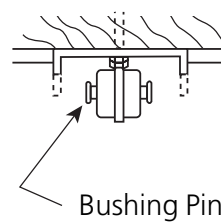

Figure 9
3. **Be sure the pin is centered in the rubber bushing.** See Figures 9 and 10.